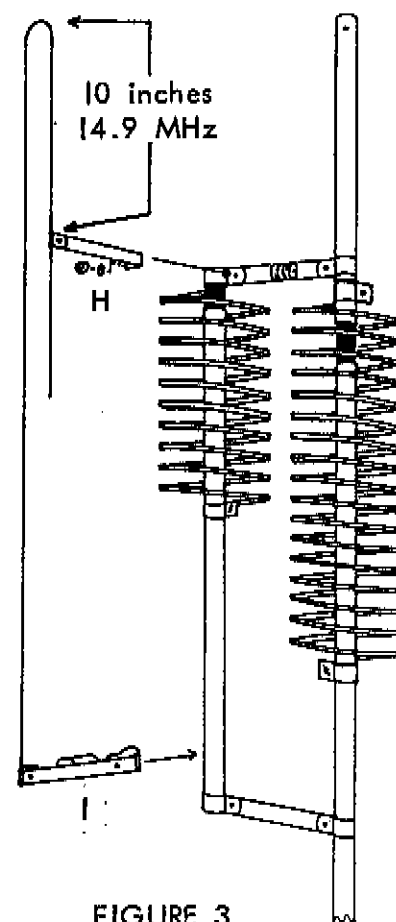

FIGURE 3
6. Take up the assembled 7.6 MHz coil and capacitor unit (D) and slide the end of tube E that has the plastic insulator up through the lower coil clamp and into the upper coil clamp of the assembly. Use a split-lock washer and #10 hex nut to fasten the upper clamp securely around the plastic insulator. The upper edge of the coil clamp should be flush with the edge of the plastic insulator. Use a split-lock washer and a wing nut to secure the lower coil clamp around the metal part of section E--not too tightly, however, for this clamp too may have to be moved during the adjustment procedure.
7. Place the remaining clamp of the completed 7.6 MHz assembly around section B immediately above the upper clamp of the 4.6 MHz coil (C) and secure firmly using a split-lock washer and a #10 hex nut.
10. Refer to figure 3 and slide tuning rod G through clamp H and double clamp and capacitor unit I as shown. Finger tighten each clamp using the hardware already on the small end of the double clamp and an assembled #8 split-lock washer and hex nut for the large end of the double clamp to position unit I around tube E. Place the hole at the end of clamp H over the #10 bolt coming through the upper coil clamp of the 7.6 MHz unit and secure using a #10 split-lock washer and hex nut.